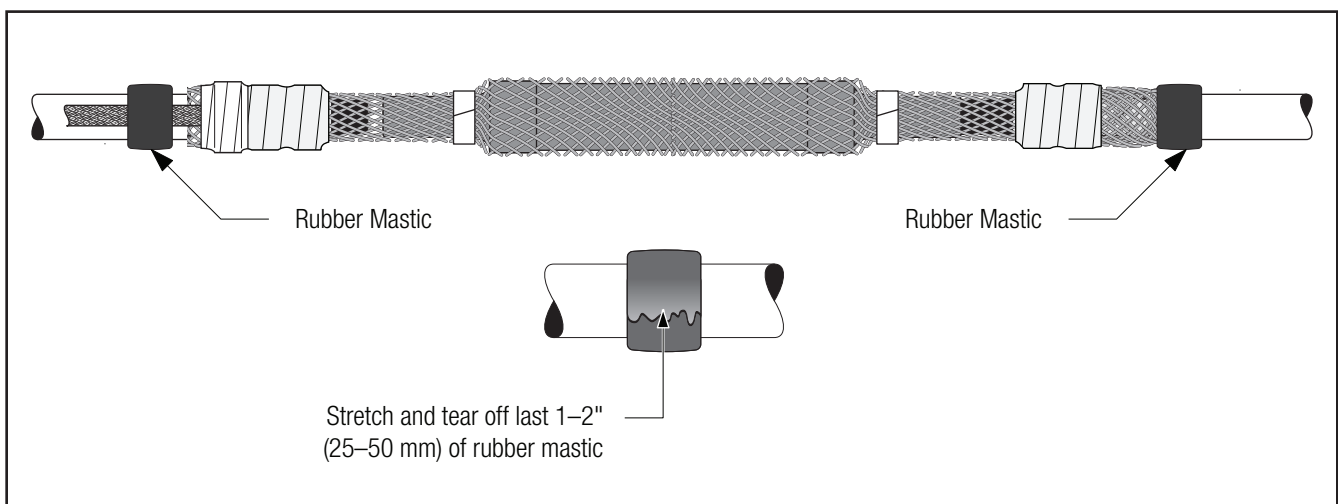

Figure 41
8.1 Apply one roll of slightly stretched rubber mastic tape around each jacket end (tacky side toward cable). Stretch and tear off the end of the rubber mastic as shown below. If ground strap was applied, tape over mastic sealing strips. For CN cable, cover mastic seal next to binder (*Figure 41*).